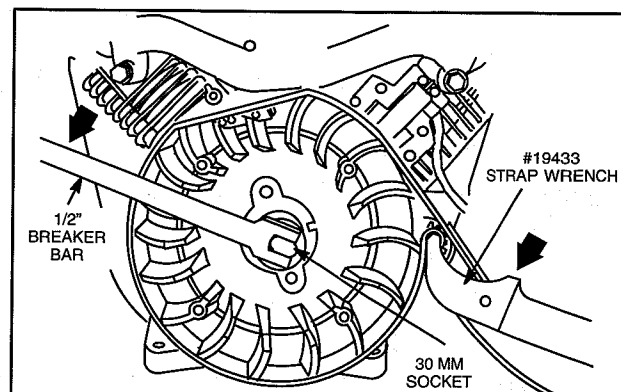

Fig. 4 - Remove Flywheel Nut Models 290000 & 303000
1. Place flywheel strap wrench, Tool #19433 around outer rim of flywheel, Fig. 4.